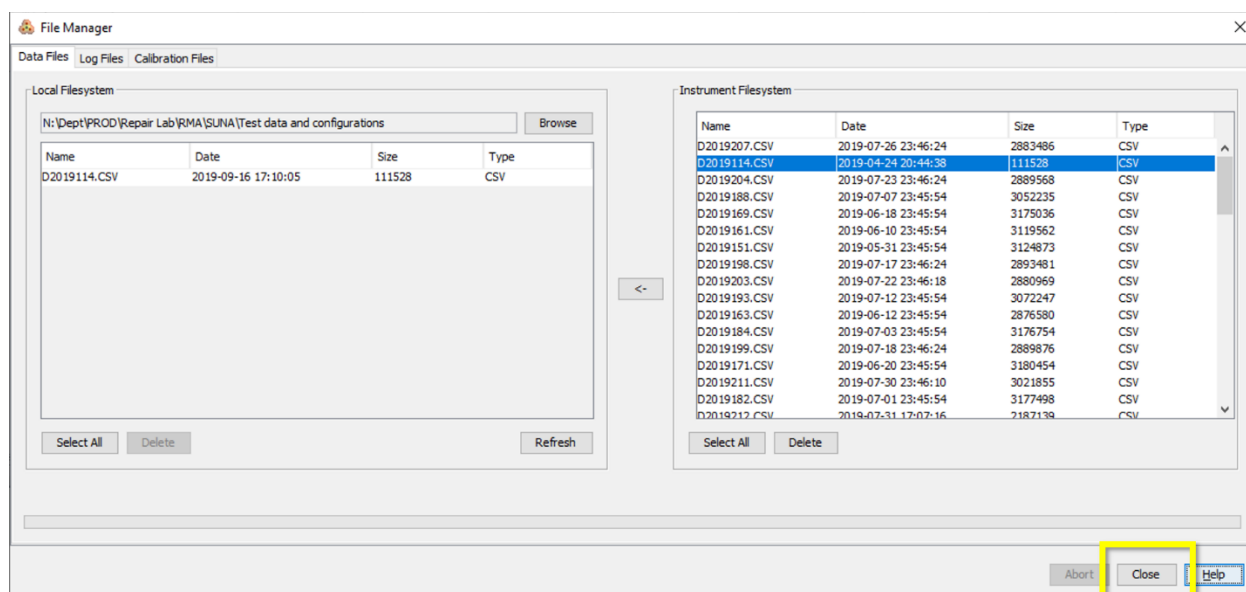

Figure 7. Click Close to Close the File Manager Pop-up Window
4. When complete, click **Close** to close the **File Manager** pop-up window (Figure 7).